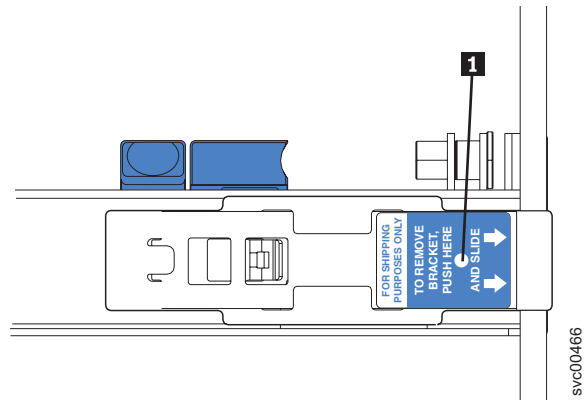

Figure 25. The release tab on the shipping bracket
2. Optionally, press on the release tab **1** that is indicated on the shipping bracket (shown in Figure 25 on page 31), and remove the shipping bracket from the slide rail. Repeat this step for the other shipping bracket. Store the shipping brackets for future use.